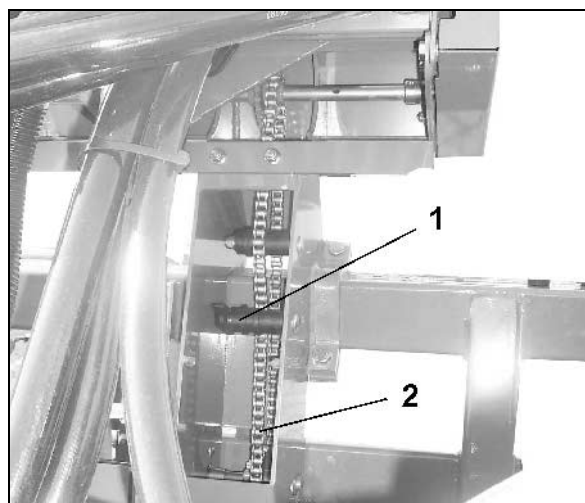

Fig. 32
3. Slacken the chain tensioner (Fig. 32/1) with the aid of the thumb nut.
4. Place the chain (Fig. 32/2) on to the desired ratio.